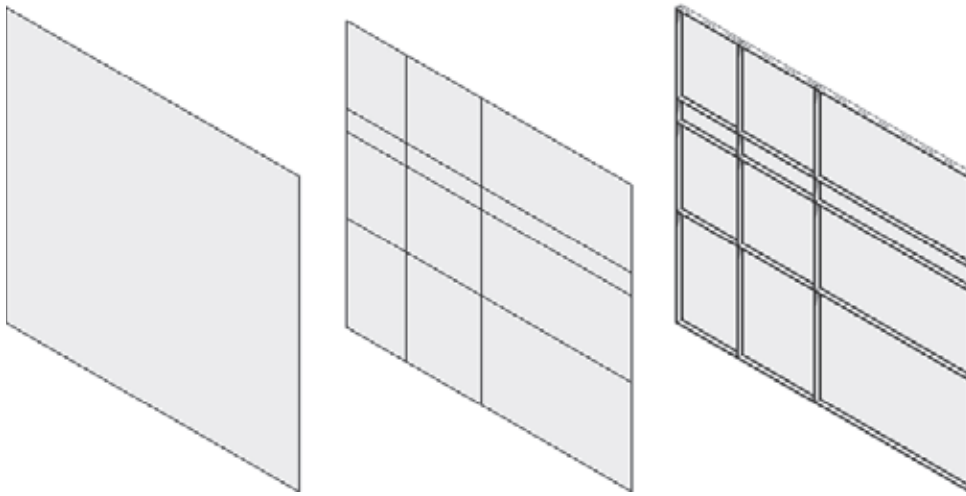

Figure 6.34
6. You can then start placing mullions using the Mullion tool located on the Home tab. Place one mullion at a time by selecting separate segments; or, if you want to apply the same mullion on all segments, hold the Ctrl key and click a gridline to select all segments and apply the mullions. The series of images in Figure 6.34 shows the approximate results you should get.